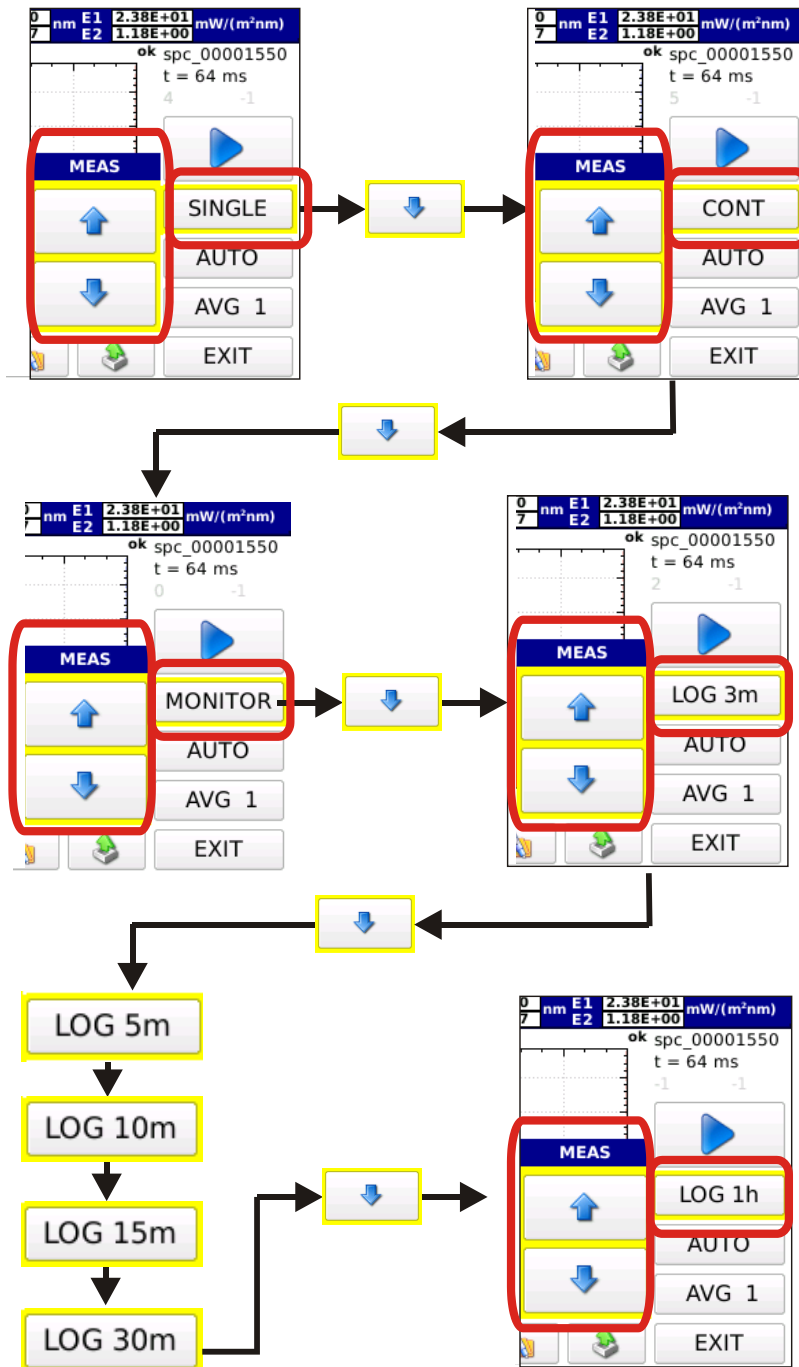

Figure 3.5: Select the operating mode using the arrow keys. Selection keys disappear by pressing any other key.
3.1.1. Select the operating mode of the instrument among the available four modes (SINGLE, CONTINUE, MONITOR, LOGGING). By pressing the **SINGLE** button two arrow sliders are displayed; by pressing the **↓** button the operating mode changes as shown on figure 3.5.